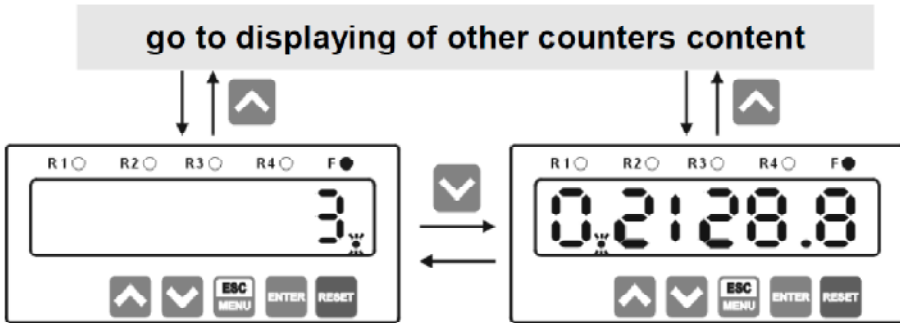

Figure 6.2. Selection between less and more significant half of the totalizer
To change displayed half, press [**v**] button. When more significant half is showed on the display, it's most right decimal point flashes. Described situation is showed in Figure 6.2:
In Figure 6.2 is showed situation, where totalizer value is equal to 302128.8. Most significant digit (3) must be displayed in more significant half, the rest of the digits can be displayed in less significant half. Because of totaliser's content must be displayed into two halves, zero on left side of less significant half is displayed, and most left decimal point flashes signalling that more significant half is available. Simultaneously right decimal point (between eights) lights constantly, indicating decimal point position.